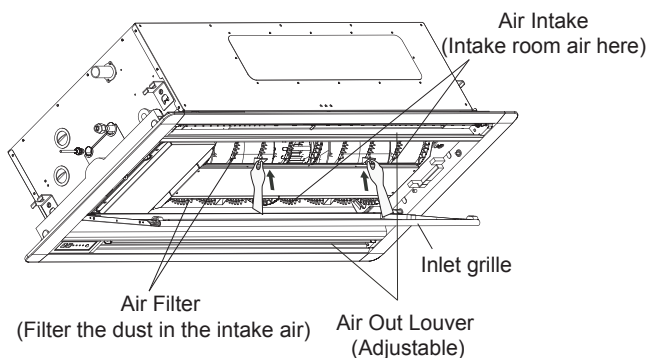

Fig.5-14
- The inlet side should face down when using clean water. (Refer to Fig.5-14)